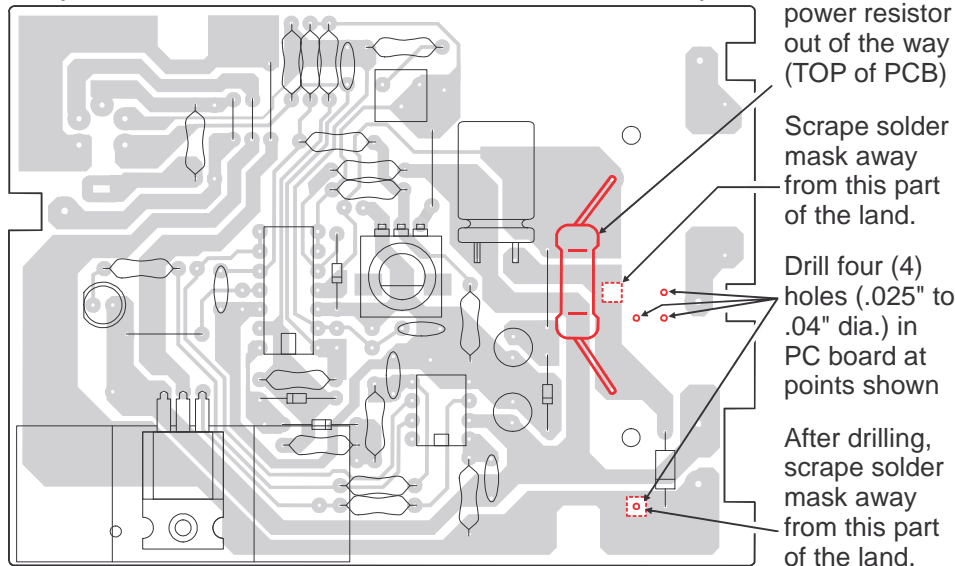

Figure 3. Hakko 936-x PC board - New Components
8. ALL REMAINING STEPS REFER TO FIGURE 3 (next page). Install (BUT DO NOT SOLDER) the LED with its CATHODE lead in the hole indicated by the illustration. DO NOT BEND THE LED LEADS AND DO NOT SOLDER YET!!!
14. Re-solder all (6) of the 6-pin heating element connector leads.